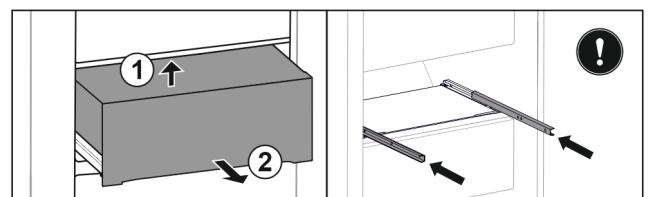

Fig. 47
- ▶ Lift drawer from below. Fig. 47 (1)
- ▶ Remove drawer to the front. Fig. 47 (2)